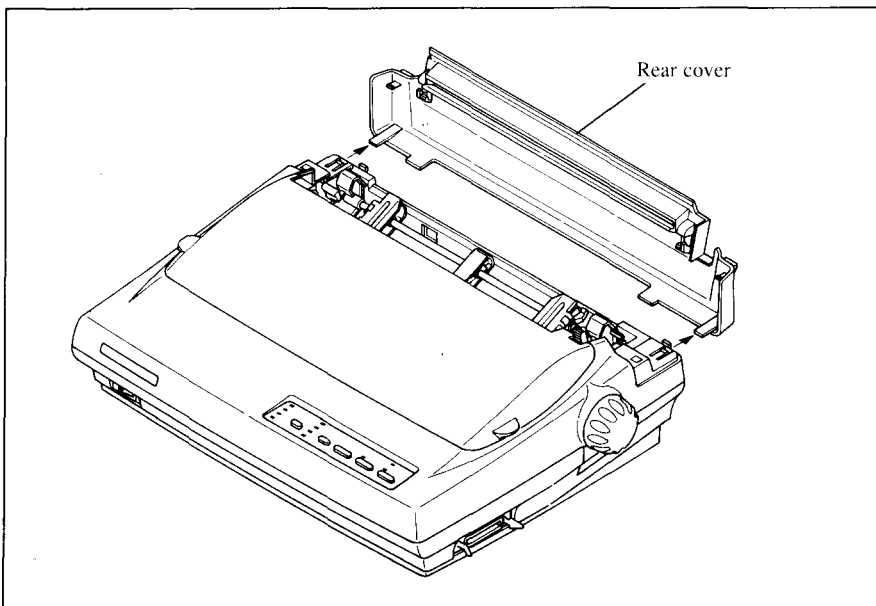

Figure 1-11. Removing the rear cover
5. Remove the rear cover using the two grips on either side, and push backwards as in Figure 1-11.